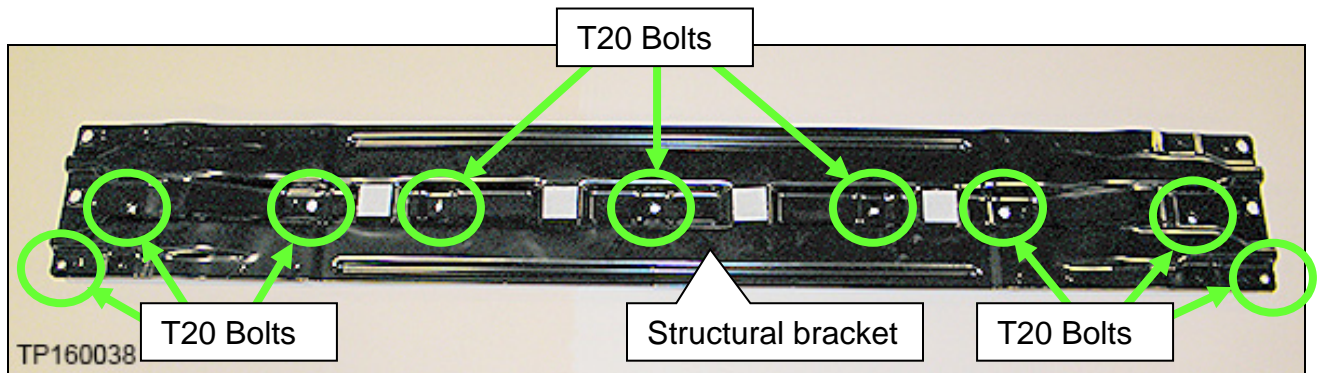

Figure 55
5. Remove the center reinforcement support (Figure 55) held by 9 T20 bolts.